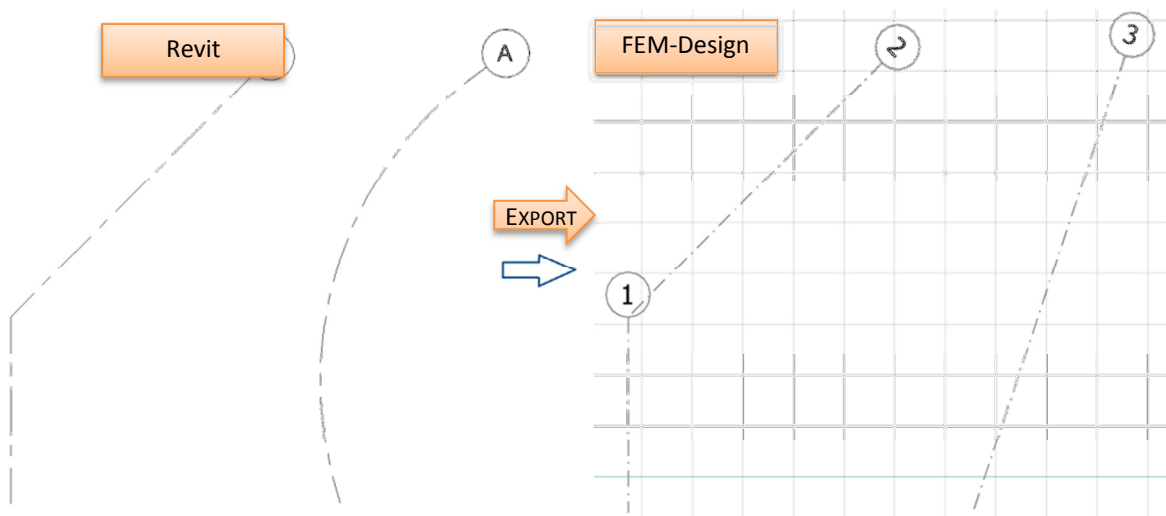

Figure II-21
- curved grid after export from Revit to FEM-Design will be replaced with a straight line axis between the start and end point of the original curved grid, as shown in Figure II-21.